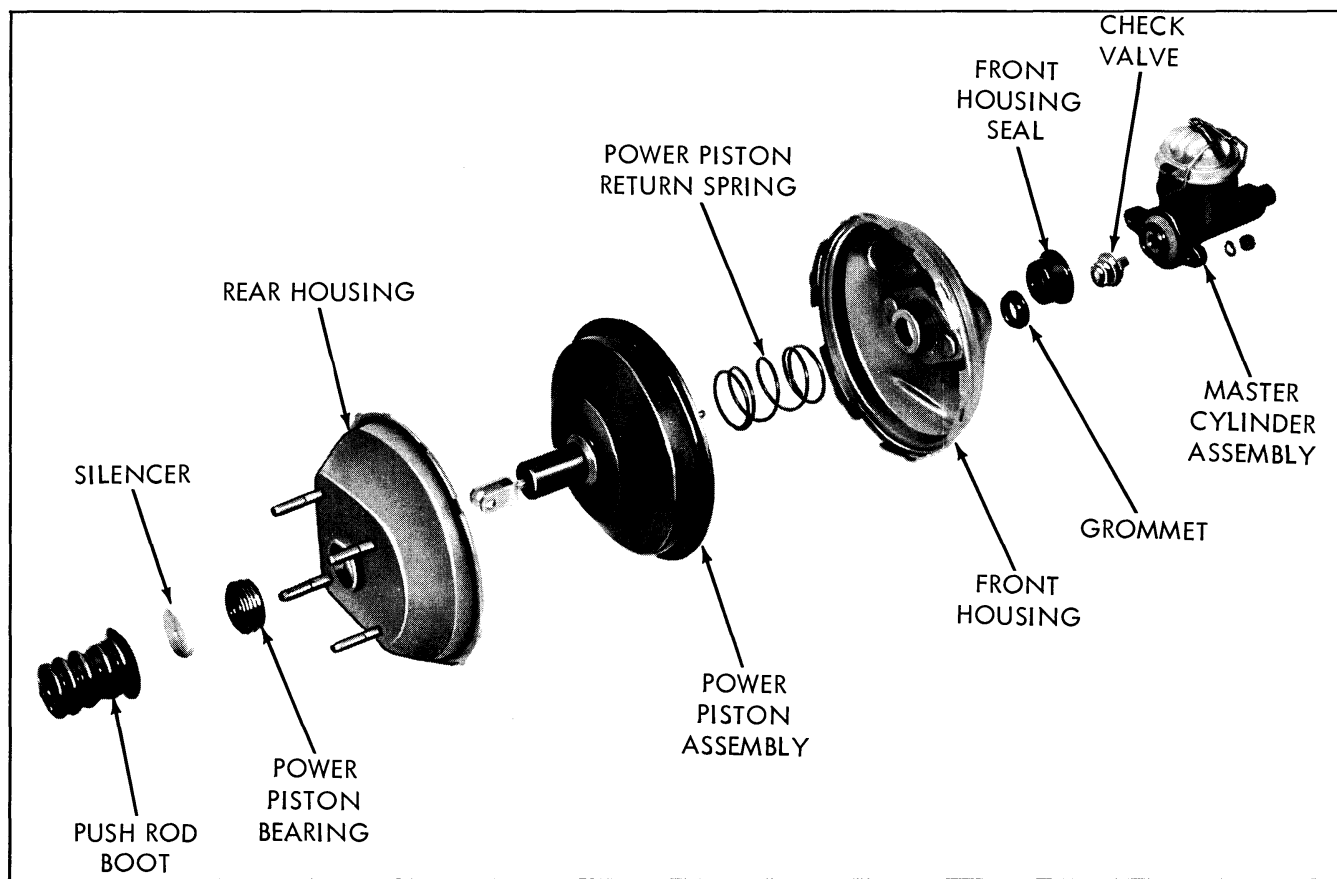

Fig. 5B-8 Power Brake Units - Exploded View
6. Press down on support plate and rotate counter-clockwise until support plate separates from power piston (Fig. 5B-10).